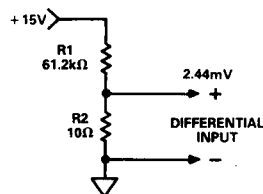

Figure 4. Input Connection for the R_{RTO} Calibration
1. Connect the inputs to a 2.44mV supply, as in Figure 4.